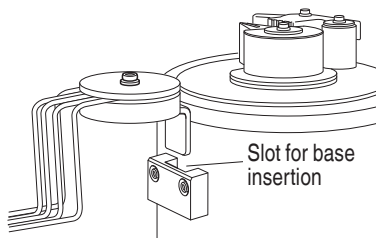

Fig. 48
- (1) Insert the base of the deflection guard into the slot of the rebar cutter/bender. (Fig. 48)